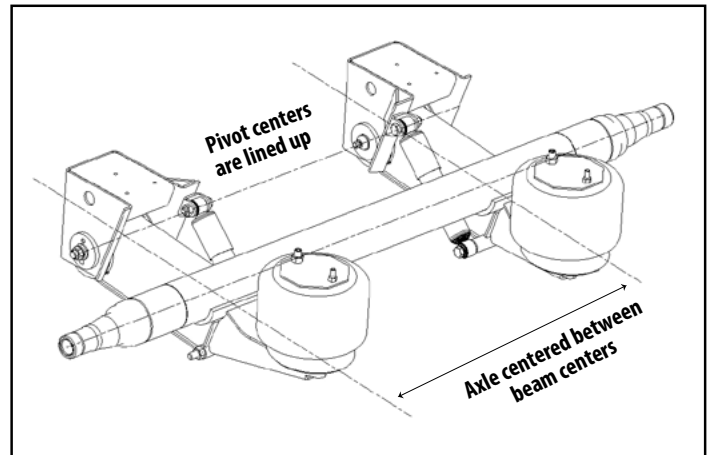

Figure 1.
1. Center the axle assembly on the beam centers (Figure 1).